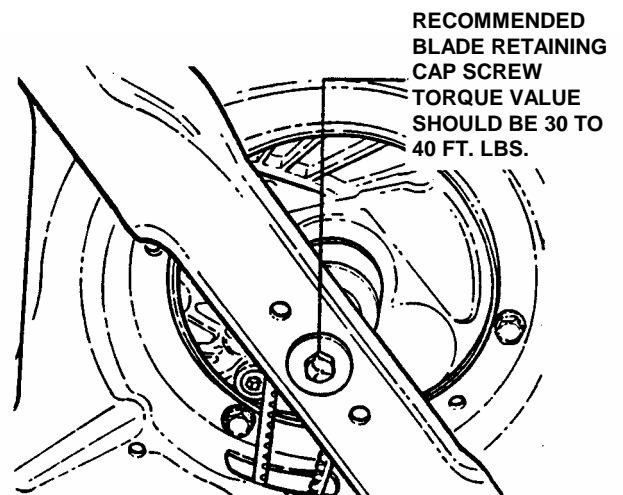

FIGURE 3.6
2. Tilt mower up on its rear wheels for access to the blade cap screw. Do not tilt mower with spark plug or carburetor down. See Figure 3.6.
3. Check torque of blade retaining cap screw. Recommended torque should be 30 to 40 ft. lbs. See Figure 3.6.